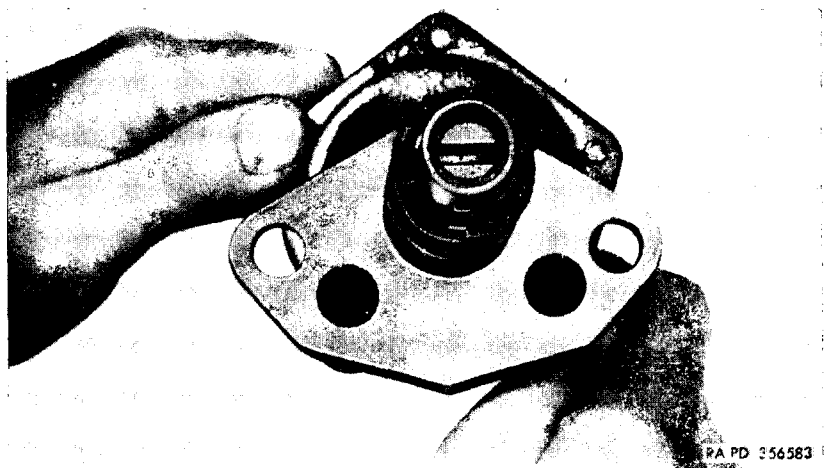

Figure 96. Alinement of distributor drive gear.
- (3) Note that the slot in the distributor drive gear (fig. 96), is offset. This prevents incorrect positioning of the distributor. Place the distributor drive gear slot parallel with the oil pump mounting holes, with the narrow side of the offset placed